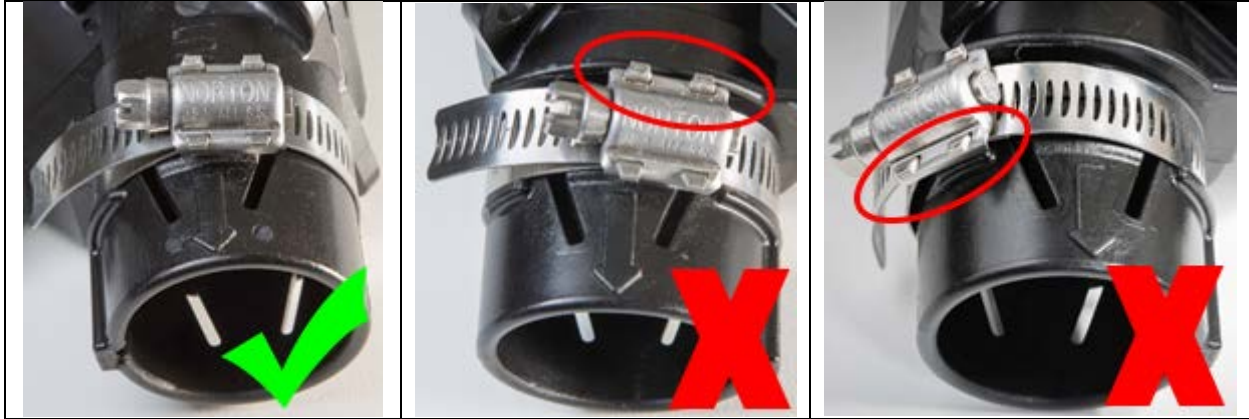

Figure 8: Correctly placing the hose clamps
4. Secure using a hose clamp between the two ridges on the end of the sensor assembly, ensuring that the hose clamp lays flat and the head (worm drive) does not hit the sensor ridge, as shown in Figure 8.